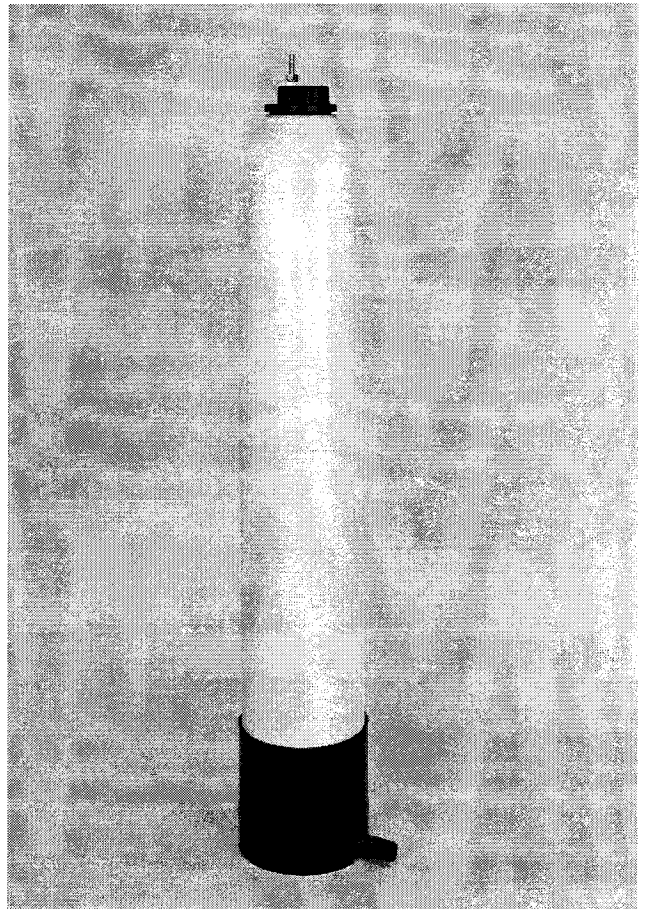

Fig. 10
8. Place the Aerator/Precipitator into the plumbing scheme. (Fig. 10)